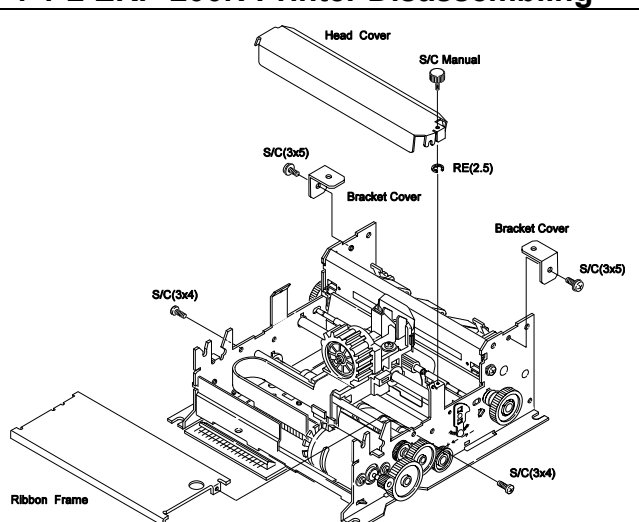

Figure 4-1. Separating Head Cover and Ribbon Frame
1. Remove 4 screws in the Frame Assembly to separate to the Head Cover and Ribbon Frame.(Figure4-1)